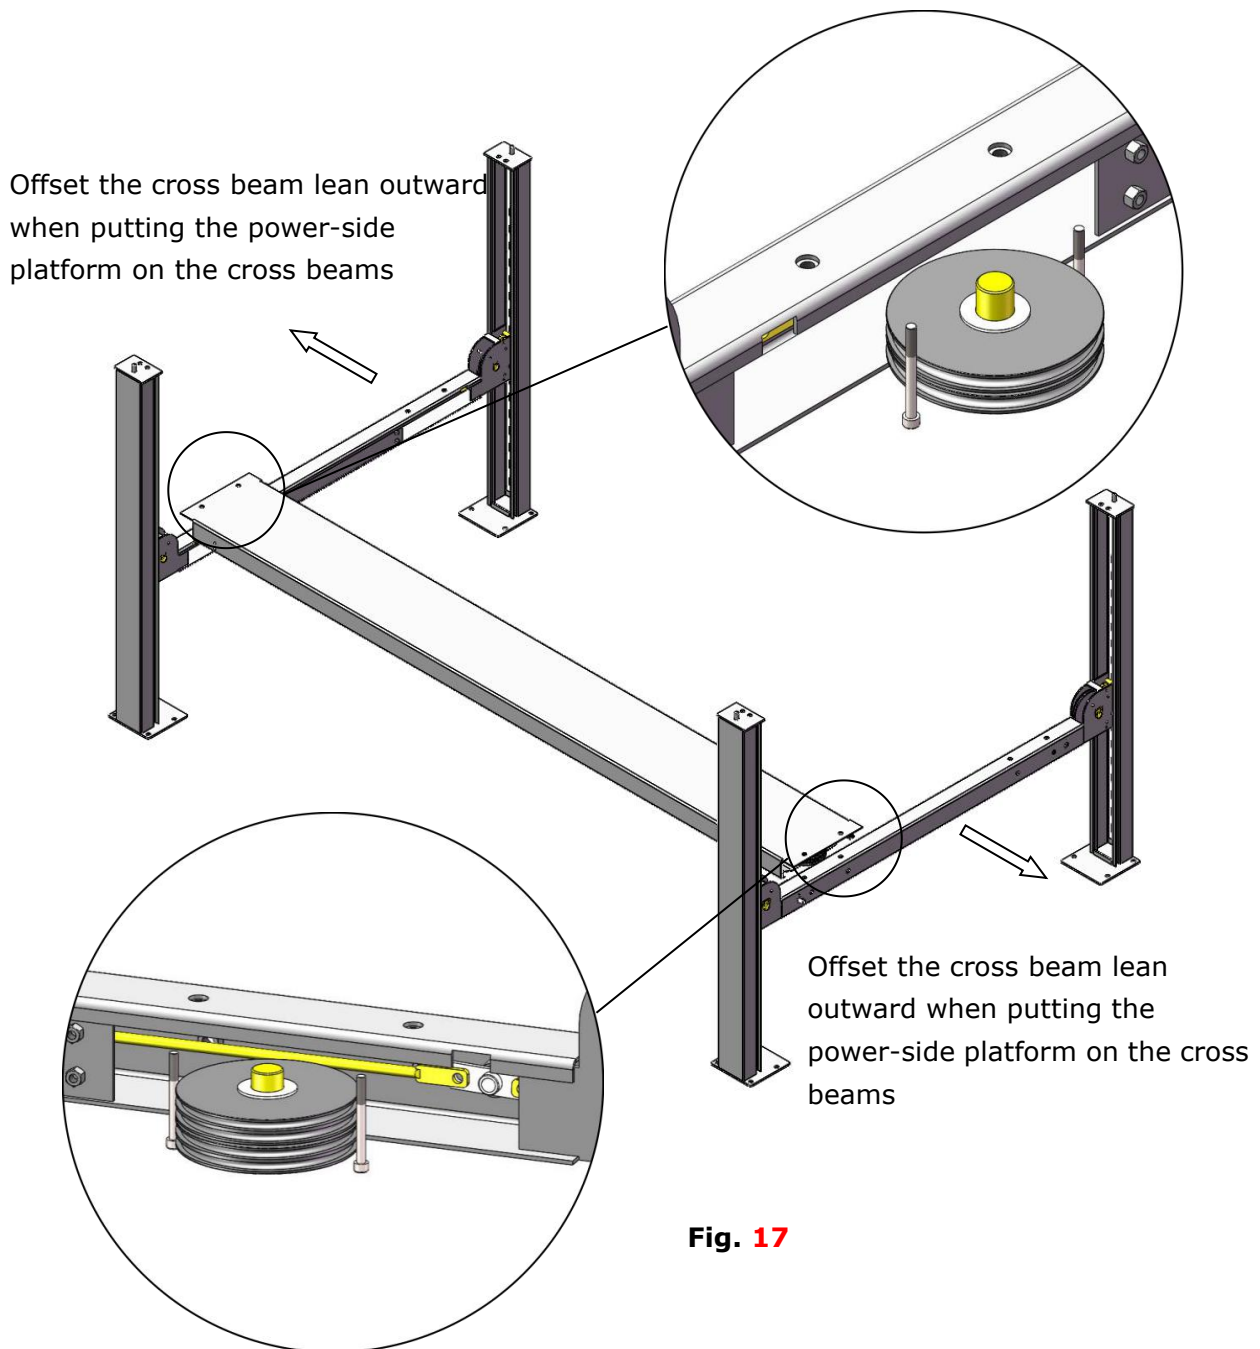

Fig. 17
1. Install the power side platform on the cross beams by a fork lift or manual, offset the cross beams to the outside till the pulleys of both platforms can rest into the cross beams' slots (**See Fig.17**), Install the power side platform and screw up the bolts.